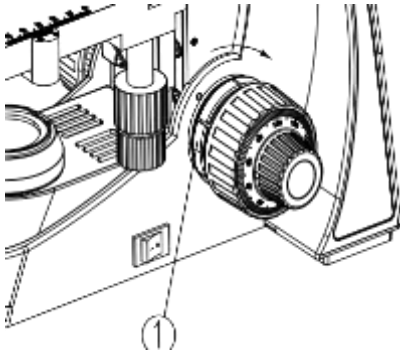

Fig.10
If the handle is very heavy when focusing or the specimen leaves the focus plane after focusing, or the stage declines itself, rotate the tension adjustment knob① to resolve the problem (See Fig. 10).